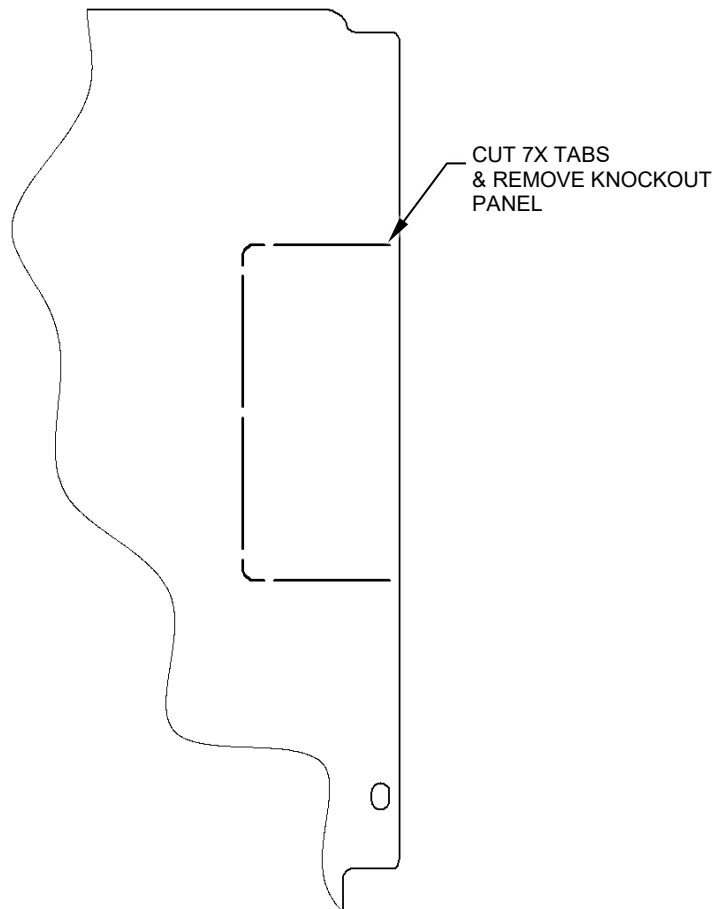

Figure 17
1. Prior to installation of the Panel, Assy, RHS, Item 2, cut the tabs retaining the knockout panel and remove. See Figure 17, 18 & 19.
2. Line the Sill, Detail, Item 5, up with its corresponding mounting holes on the Panel, Assy, RHS, Item 2. Trim the Sill, Detail, Item 4, .050" AFT of the edge of the knockout panel, and radius the new corners. See Figure 17, 18 & 19.